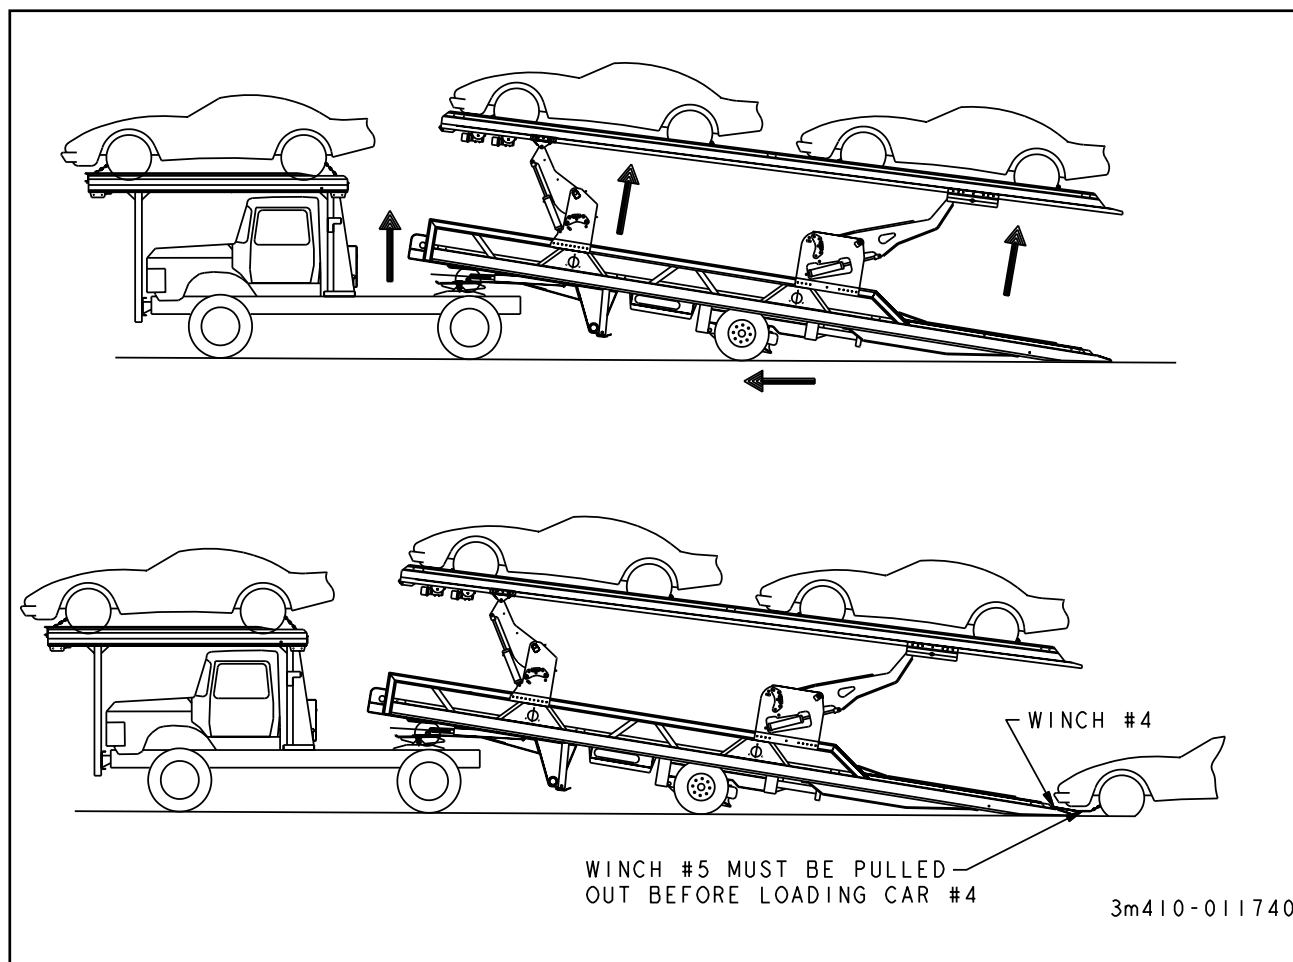

Figure 3-10 Preparing to Load the Lower Deck
3-15.8 Unlock and raise the rear arm to an adequate height to allow clearance for loading vehicles on the lower deck (See Figure 3-10).
- 3-16.1** Make sure there is adequate clearance between the upper and lower deck to load vehicles on lower deck (See Figure 3-10).